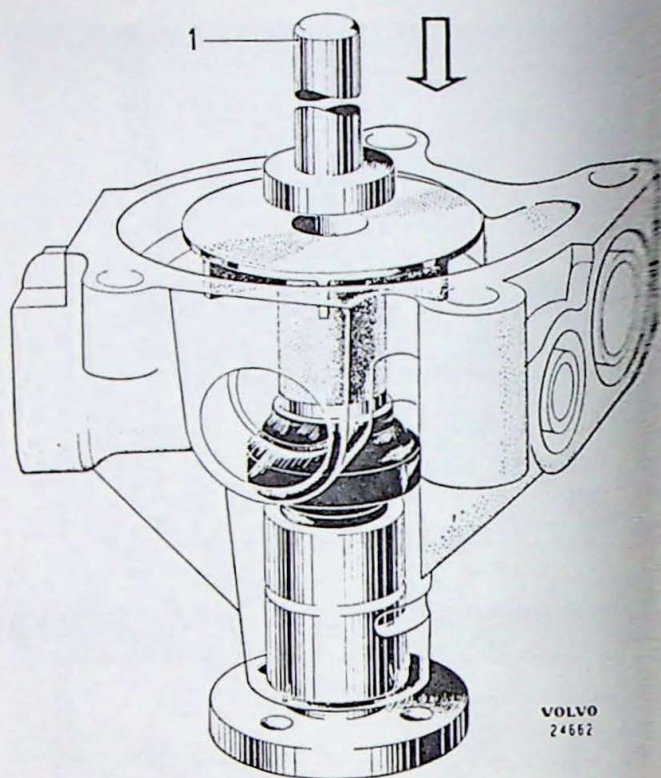

Fig. 1-87. Fitting the impeller
4. Press on the impeller with tool SVO 2266 (Fig. 1-87) until the impeller is about 0.2 mm (0.008") under the level of the pump housing. The washer must be laid under the shaft end as mentioned in point 1.